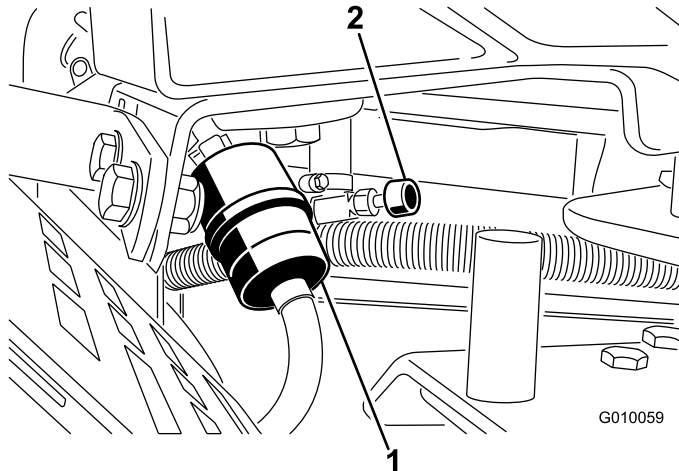

Figure 51
2. Close the fuel shut-off valve (Figure 51).
3. Squeeze the ends of the hose clamps together and slide them away from the filter (Figure 51).
5. Install a new filter and move the hose clamps close to the filter (Figure 51).
7. Open fuel shut-off valve (Figure 51).
3. Loosen the hose clamp at the fuel filter and slide it up the fuel line away from the fuel filter (Figure 51).
4. Pull the fuel line off fuel filter (Figure 51). Open the fuel shut-off valve and allow gasoline to drain into a gas can or drain pan.
5. Install the fuel line onto the fuel filter. Slide the hose clamp close to the fuel filter to secure the fuel line (Figure 51).